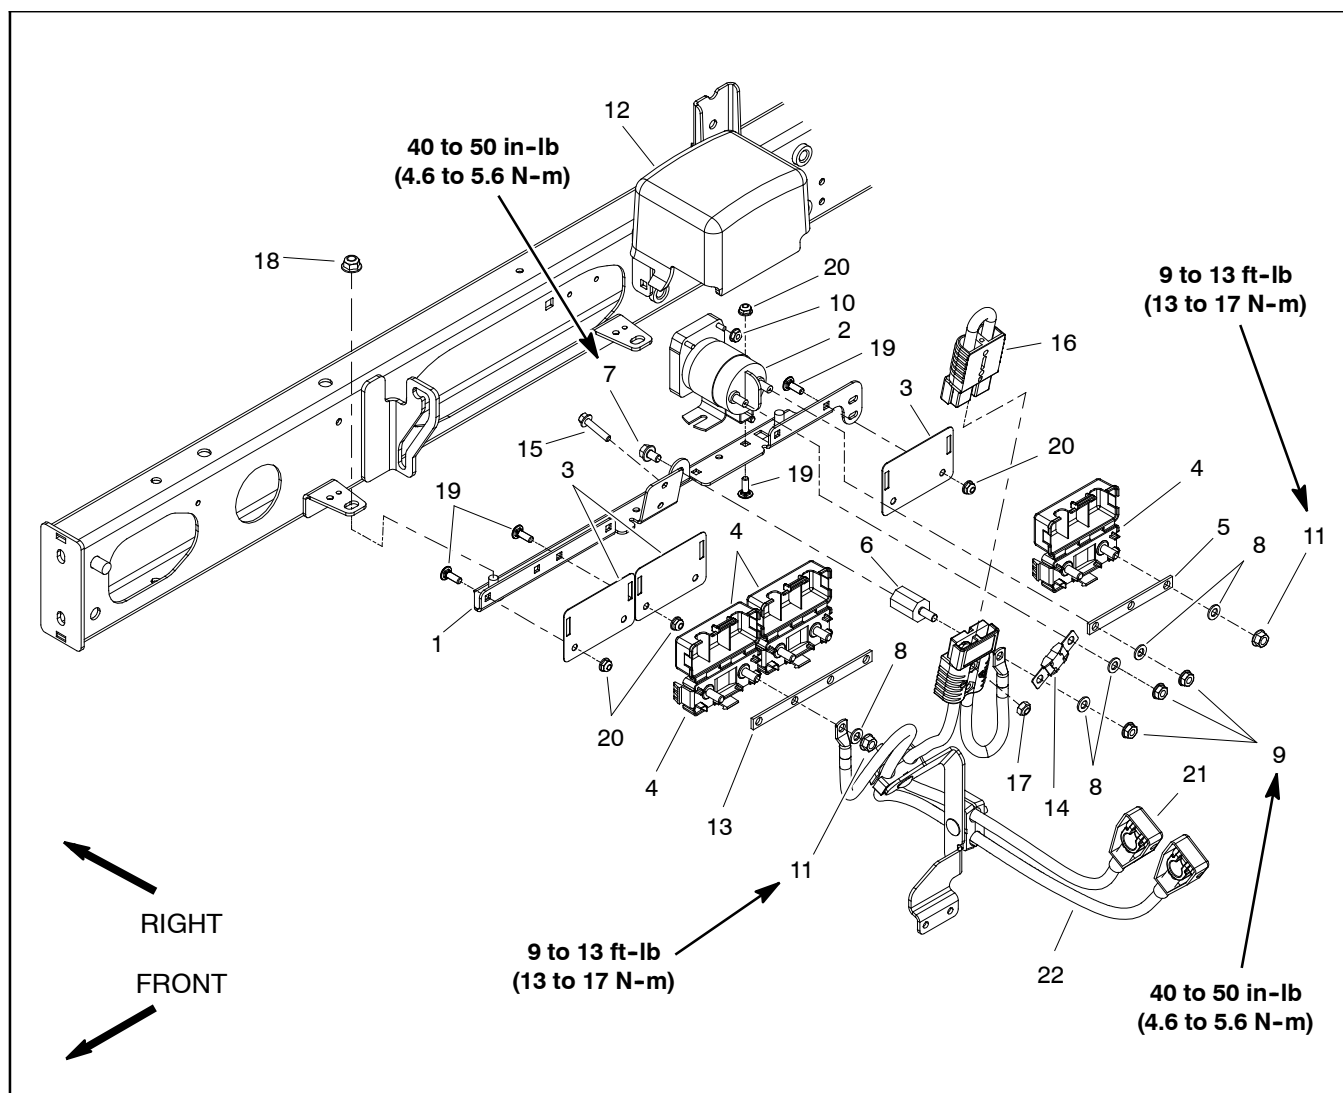

Figure 91
5. Disconnect electrical connections and remove components as needed using Figures 91, 92 and 93 as guides.
1. Install all removed components and electrical connections as needed using Figures 91, 92 and 93 as guides. Use torque specifications identified in Figure 91 when installing fasteners.